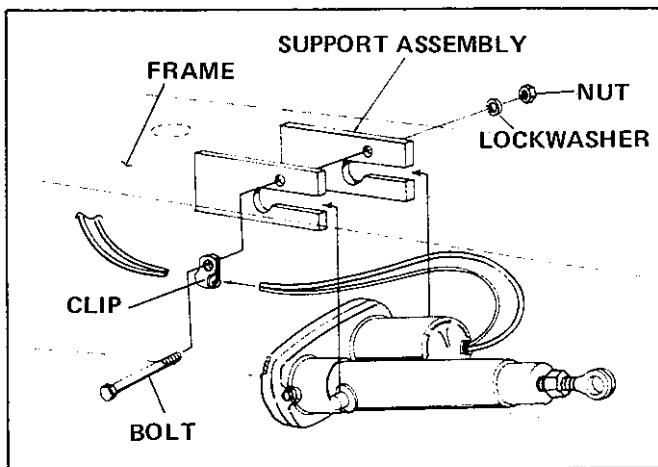

Figure 1.
14. Screw eyebolt (2, Figure 2) with locknut (3) into actuator (1) and install actuator in support assembly (Figure 1) under center of frame.
15. Secure wire clip (Figure 1) to support assembly with a nut, lockwasher, and 3-1/2 inch bolt.